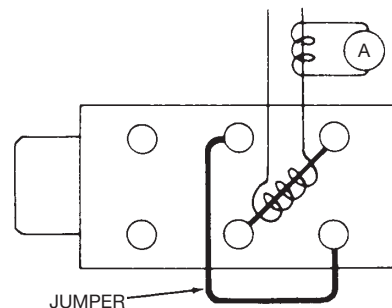

Figure 25.
- Connect another two phases in series as shown in Figure 25 and retest.